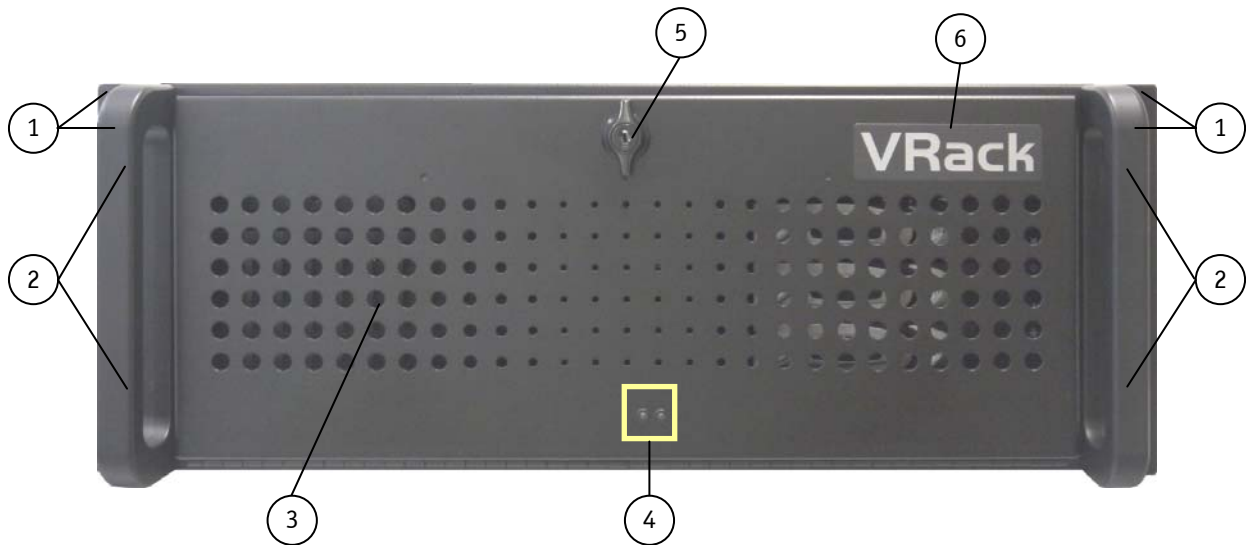
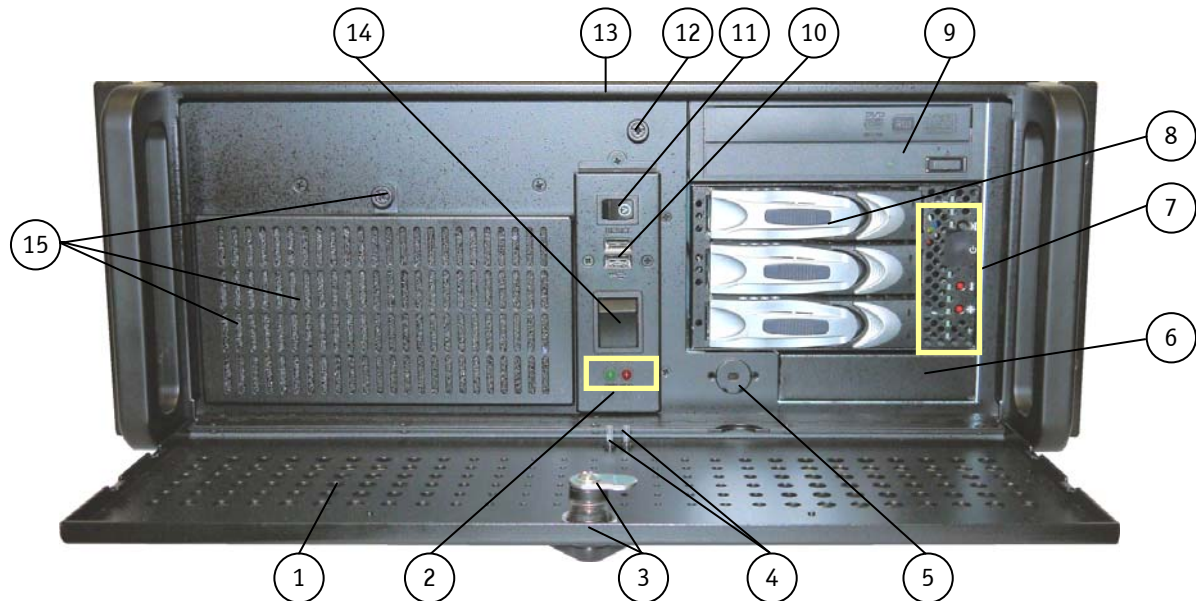
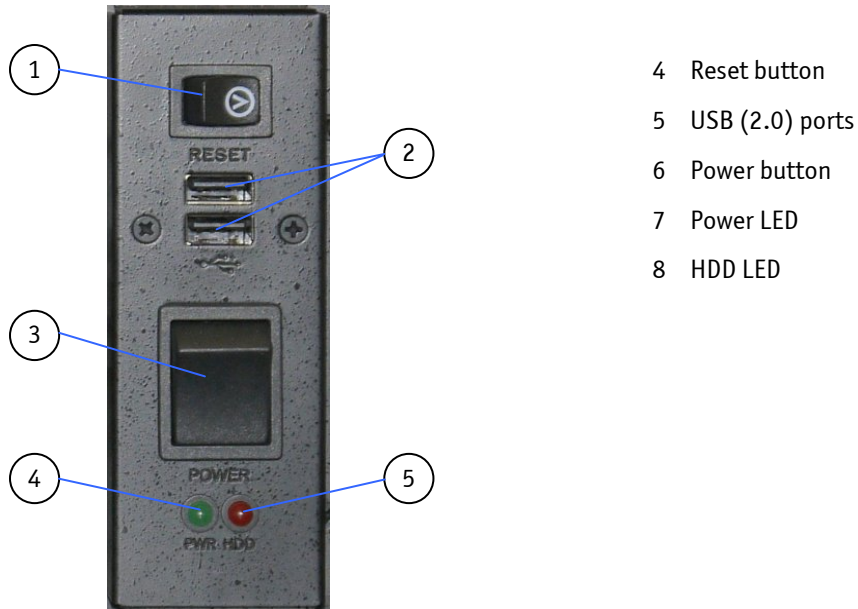
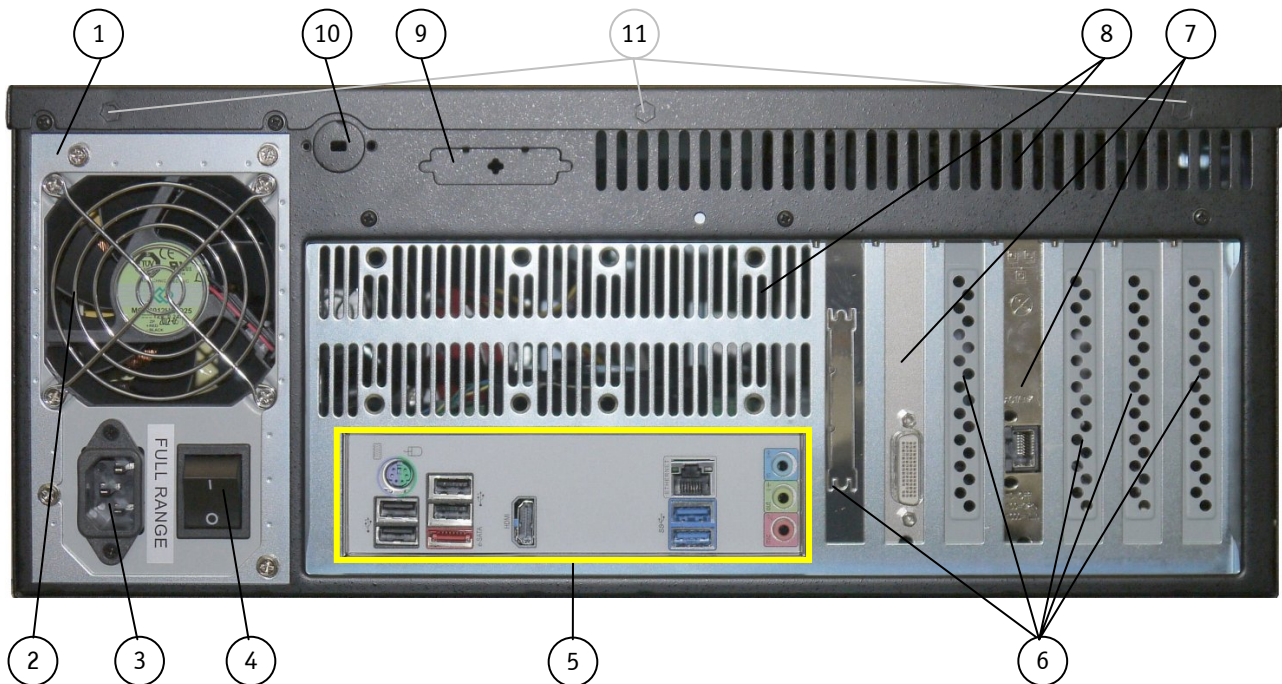

Fig. 7: Front side with closed front access panel
Fig. 8: Front side with opened access panel
Fig. 9: Controls, indicators and USB ports at the front side
Fig. 12: Rear side of a VRack 4U platform (shown as VRack DZ77-A; the expansion cards are as example only)
Legend for Fig. 8:
The VRack 4U platform is equipped with two USB interfaces on the front side (see Fig. 8, pos. 4 and Fig. 9, pos. 2). You can connect various USB devices to these two USB 2.0 interface connectors.
The power button (see Fig. 8, pos. 15 and Fig. 9, pos. 3) is located on the front side of the system, behind the front access panel. Press this button to turn the system on or off.
Even when the system is turned off via the power button (Fig. 8, pos. 3) there is still a standby-voltage of 5 VSb on the motherboard.
The indicators (see Fig. 8, pos. 2) of the VRack 4U platform are located on the front side, behind the front access panel.
The securing lock mechanism (Fig. 7, pos. 3) located at the access panel allows you, if required, to protect your system from unauthorized use. When the access panel is locked, the cover of the VRack 4U system can not be removed, and the drives and the power and reset button are not accessible.
The cover fastening screw (Fig. 8 pos. 12) secures the cover to the chassis on the front side.
To remove the cover of the VRack 4U platform, the knurled screw (Fig. 8 pos. 12) on the front side has to be loosened and the three mounting bolts (Fig. 12, pos. 11) on the rear side of the cover must be pulled out (by horizontal movement of the cover).
The filter mat and the filter mat holder (Fig. 8, pos. 15) are located behind the air holes of the front access panel (Fig. 7, pos. 3). The filter mat holder is fastened to the front side panel of the VRack 4U via a knurled screw and two positioning plates. A filter mat is inserted in the filter mat holder. This filter mat protects your system against dust and dirt (see chapter 10.1 "Cleaning the Filter Mat").
Depending on the ordered system configuration, the system can be equipped with up to six drives on the front side (see Fig. 8, pos. 6, 8, 9):
For VRack 4U system configurations with a disk subsystem with three HDDs (DA335), two 5.25" drive bays are occupied by this subsystem with removable HDDs (D2 and D3 in Fig. 8).
For VRack 4U system configurations with a disk subsystem with four HDDs (DA435) or five HDDs (DA535), three 5.25" drive bays are occupied by this subsystem with removable HDDs (D1, D2 and D3 in Fig. 8).
The power supply (Fig. 12, pos. 1) is located on the rear side of the VRack 4U platform.